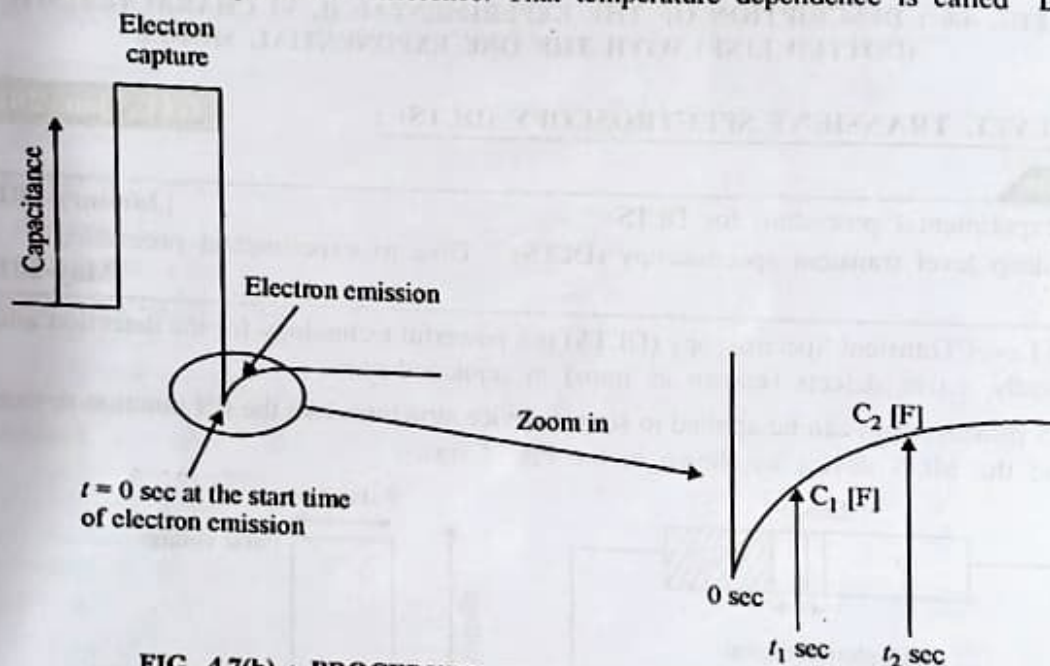

FIG. 4.7(b) : PROCEDURE TO OBTAIN THE DLTS SIGNAL
- Fig. 4.7(c) shows how the capacitance transient is generated.